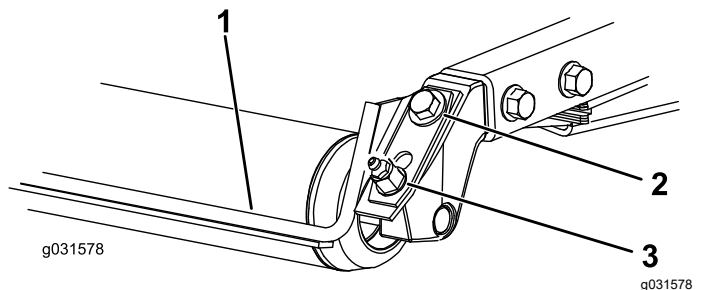

Figure 19
1. Loosen the grease fitting and the mounting screw (Figure 19).